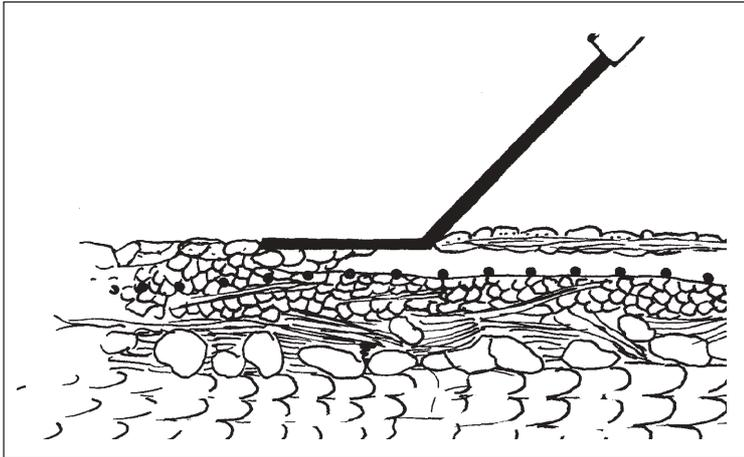
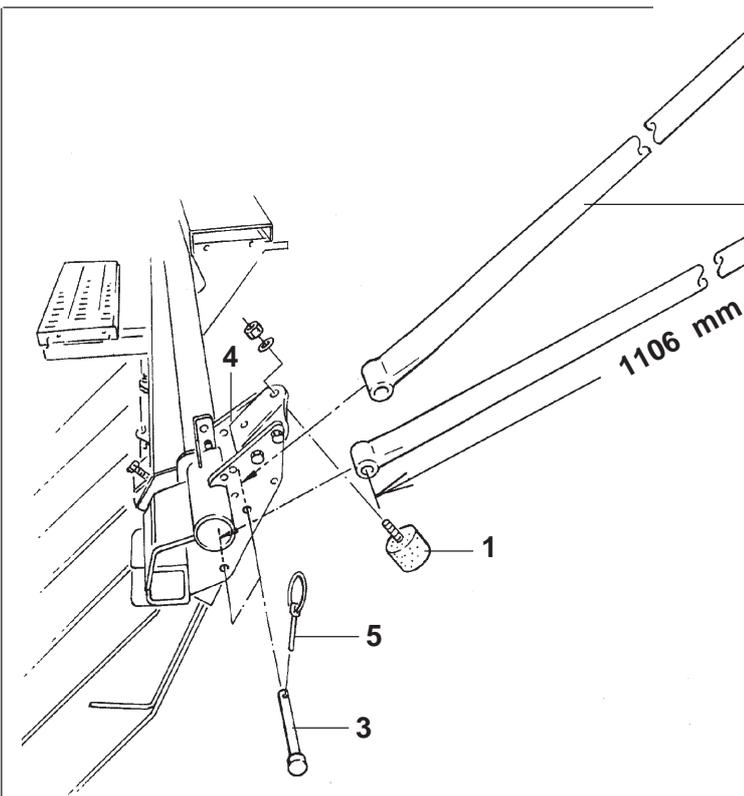

Fig. 24.1
Fig. 24.3
The extra coverage following harrow (Fig. 24.1) evenly covers the seed sown with soil.
- Bolt on swing-metal buffer (Fig.24.3/1) .
- Fit parallel tubes (Fig. 24.3/2) with pins (Fig. 24.3/3) to the retainers (Fig. 24.3/4) of the extra coverage following harrow and secure with clip pins (Fig.24.3/5).
- Affix the other ends of the parallel tubes (Fig. 24.3/2) with pins (Fig.24.3/6) to the hole "A" of the retaining chanel iron (Fig. 24.3/7) and secure with clip pins (Fig. 24.3/8) .
Should the settability of the top link (Fig. 24.1/1) be insufficient, the length of the upper parallel linkage tubes (Fig. 24.3/2) should be readjusted.